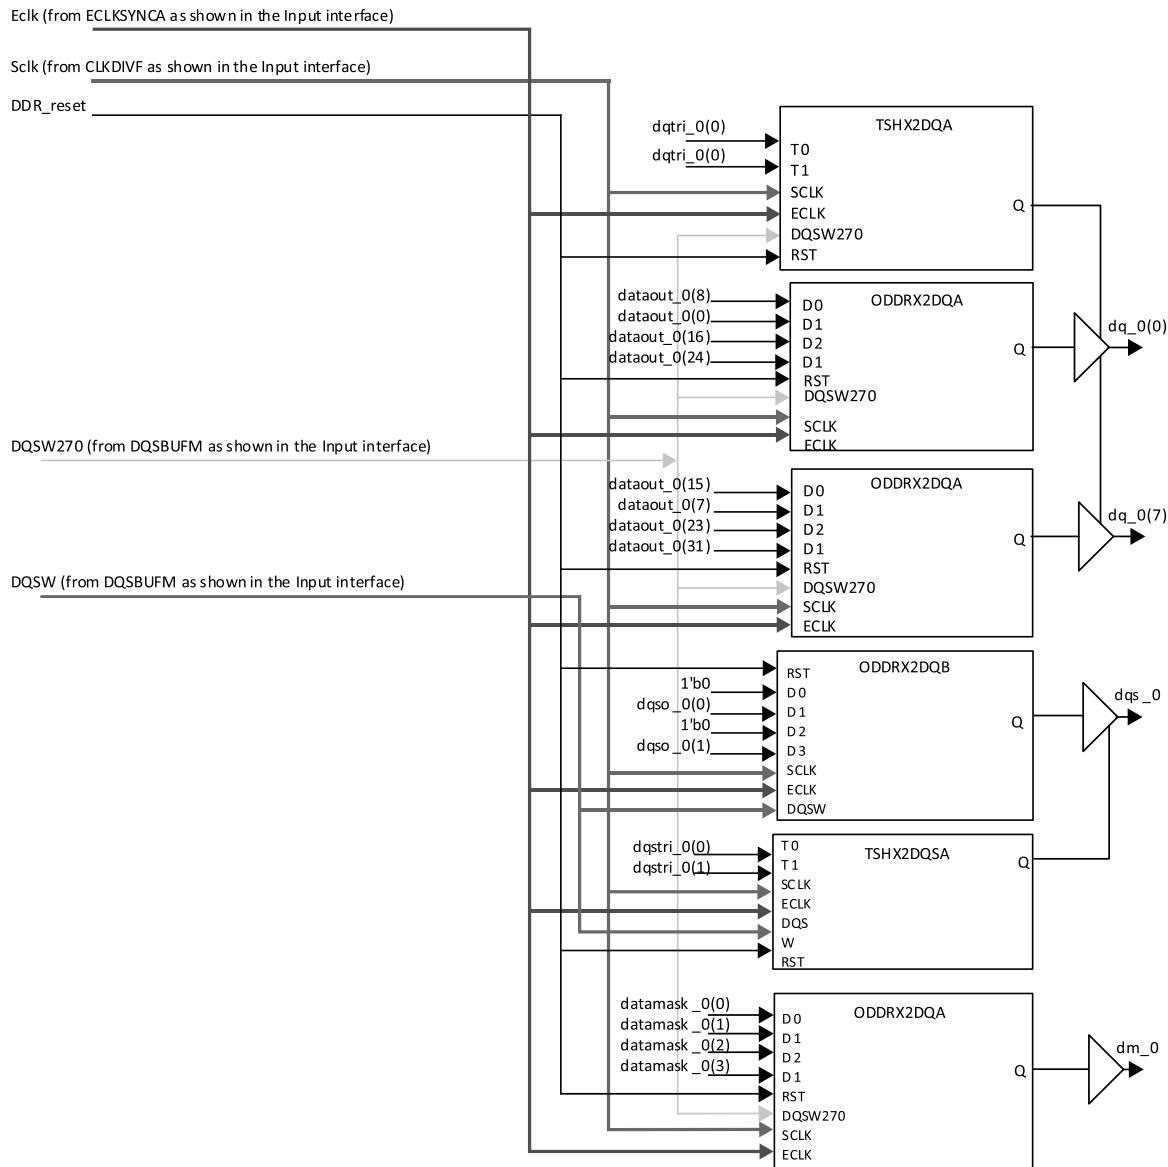

Figure 6.9. DDR3/DDR3L and LPDDR2/LPDDR3 Write Side (DQ, DQS, and DM)
Figure 6.9 show the DDR3/DDR3L and LPDDR2/LPDDR3 memory interface write side implementation to generate DQ, DQS, and DM outputs.
- One tri-state is shown in Figure 6.9. The software generates one tri-state element for each DQ port.